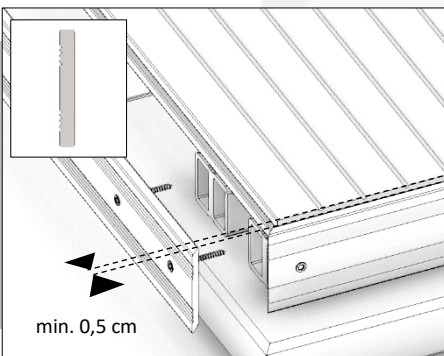

FIG. 11
- You can also use composite cover slats. These can be mounted after mounting the decking boards. (Fig. 11). Always take the natural movement of wood into account by leaving space between the cover slats and the decking boards (Fig. 11).
- Another option is to finish the sides with composite cover slats. Keep in mind there should be a minimum space of 0,5 cm between the decking boards and the cover slats (Fig. 11).